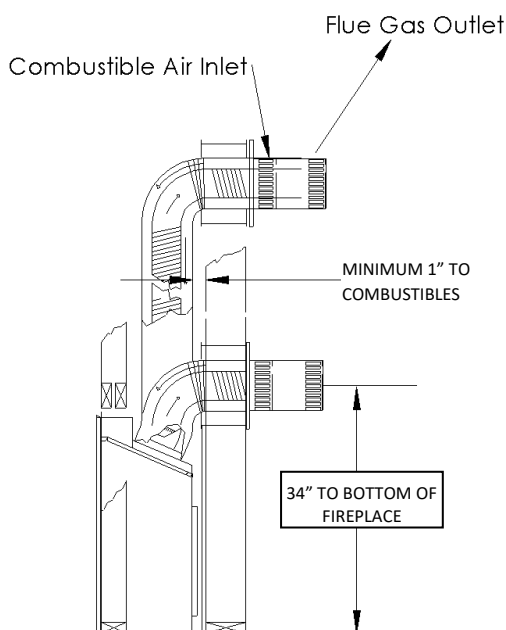

Figure 1
The auxiliary function controls the AUX power outlet by the dimmable light control. To activate this function use the Mode Key (fig. 1) to index to the AUX icon (fig. 15 & 16).
The intensity of the output can be adjusted through six (6) levels. Use the Up/Down Arrow Keys (Fig.1) adjust the output level (fig. 16). A single "beep" will confirm reception of the command.
Place the spring spaces provided approximately every two feet to stabilize 4" flex in the center of 7" flex. When forming bends place spring in bend or before and after. (See Fig. 1). Horizontal runs require support metal straps every 2 feet. In offset installation support straps should be used to stabilize pipe.
Expand 4" and 7" flex pipe to the point that the 7" protrudes approximately 2 to 3 inches past outer wall and the 4" flex protrudes approximately 2 to 3 inches past the 7" flex. (See Fig. 1). Attach the 4" pipe to the termination first and secure with sealant and screws then attach the 7" flex to the termination with caulking and screws. Termination may then be moved back to the outer wall and attached to home screwing into the framing. Silicone around termination to waterproof. If siding shield is going to be used attach this using same attaching hole as the top of termination after termination has been caulked for water proofing.
- To install wall thimble center over 11" x 11" (inch) framing from both sides of wall and secure. Route flex vent pipe through wall thimble (See Figure 1).
- Support horizontal pipes every two (2) feet (61 cm) with metal strap bands. Re-check fireplace to make sure it is levelled and properly positioned and secured.